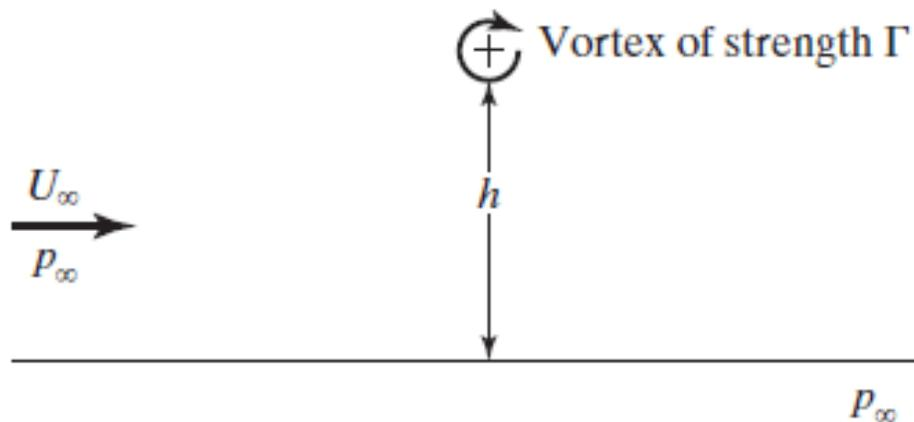

Fig. 6.
13. A two-dimensional free vortex is located near an infinite plane at a distance h above the plane (Fig. 6). The pressure at infinity is p_∞ and the velocity at infinity is U_∞ parallel to the plane. Find the total force (per unit depth normal to the paper) on the plane if the pressure on the underside of the plane is p_∞ . The strength of the vortex is Γ . The fluid is incompressible and perfect. To what expression does the force simplify if h becomes very large?